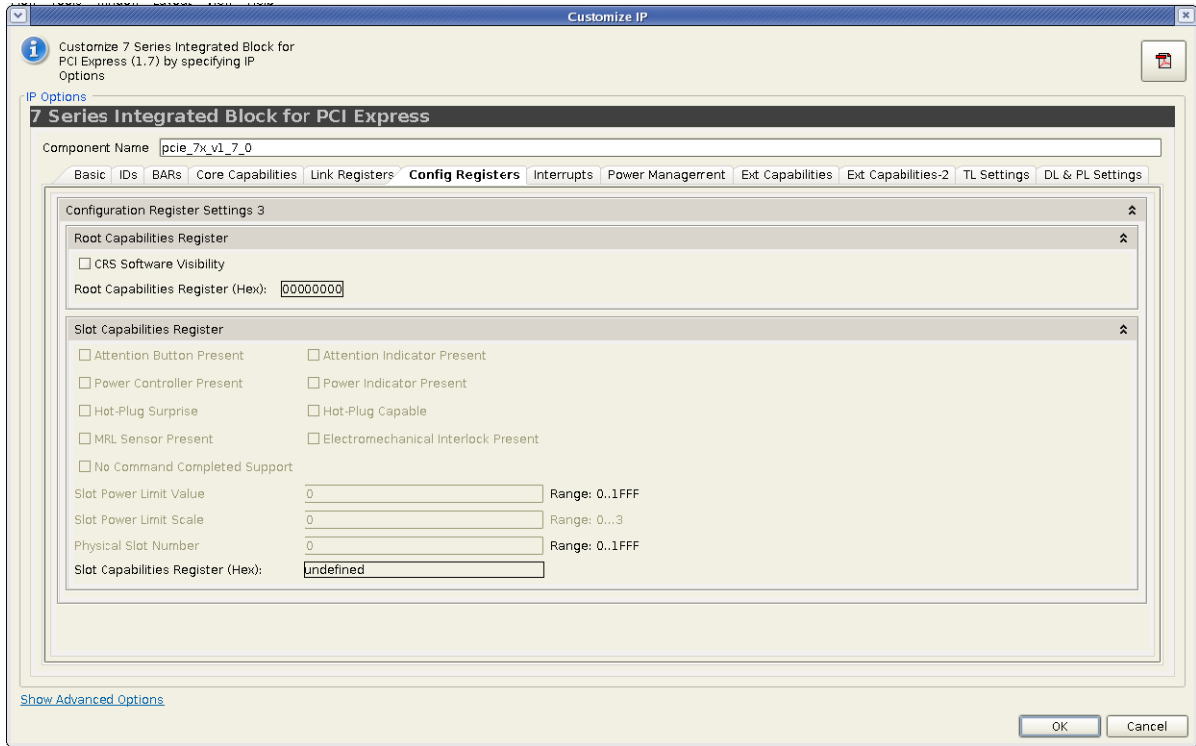

Figure 4-9: Config Register
- **Attention Button Present:** Indicates the Attention Button is implemented. When set, indicates that an Attention Button for this slot is implemented on the chassis. This option is disabled when "Device\_Port\_Type" is not "Root Port of PCI Express Root Complex." This is enabled only when the Slot Implemented parameter in the Core Capabilities tab is selected (see Figure 4-9).
- **Attention Indicator Present:** Indicates the Attention Indicator is implemented. When set, indicates that an Attention Indicator for this slot is implemented on the chassis. This option is disabled when "Device\_Port\_Type" is not "Root Port of PCI Express Root Complex." This is enabled only when the Slot Implemented parameter in the Core Capabilities tab is selected (see Figure 4-9).
- **Power Controller Present:** Indicates the Power Controller is implemented. When set, indicates that a software programmable Power Controller is implemented for this slot. This option is disabled when "Device\_Port\_Type" is not "Root Port of PCI Express Root Complex." This is enabled only when the Slot Implemented parameter in the Core Capabilities tab is selected (see Figure 4-9).
- **Power Indicator Present:** Indicates the Power Indicator is implemented. When set, indicates that a Power Indicator is implemented on the chassis for this slot. This option is disabled when "Device\_Port\_Type" is not "Root Port of PCI Express Root Complex." This is enabled only when the Slot Implemented parameter in the Core Capabilities tab is selected (see Figure 4-9).
- **Hot-Plug Surprise:** When set, indicates that an adapter in this slot might be removed from the system without any prior notification. This option is disabled when "Device\_Port\_Type" is not "Root Port of PCI Express Root Complex." This is enabled only when the Slot Implemented parameter in the Core Capabilities tab is selected (see Figure 4-9).
- **Hot-Plug Capable:** When set, indicates that this slot is capable of supporting hot-plug operations. This option is disabled when "Device\_Port\_Type" is not "Root Port of PCI Express Root Complex." This is enabled only when the Slot Implemented parameter in the Core Capabilities tab is selected (see Figure 4-9). The checkbox in the Vivado IDE advertises the capability and it does not do anything. You need to use the presence signal on your card, route it to an input into the FPGA, and use that input as presence detects and writes through the management interface to set the bit.
- **MRL Sensor Present:** Indicates MRL Sensor implemented. When Set, indicates that an MRL (Manually operated Retention Latch) sensor is implemented for this slot, on the chassis. This option is disabled when "Device\_Port\_Type" is not "Root Port of PCI Express Root Complex." This is enabled only when the Slot Implemented parameter in the Core Capabilities tab is selected (see Figure 4-9).
- **Electromechanical Interlock Present:** When set, indicates that an Electromechanical Interlock is implemented on the chassis for this slot. This option is disabled when "Device\_Port\_Type" is not "Root Port of PCI Express Root Complex." This is enabled only when the Slot Implemented parameter in the Core Capabilities tab is selected (see Figure 4-9).
- **No Command Completed Support:** When set, indicates that the slot does not generate software notification when an issue command is completed by the Hot-Plug Controller. This option is disabled when "Device\_Port\_Type" is not "Root Port of PCI Express Root Complex." This is enabled only when the Slot Implemented parameter in the Core Capabilities tab is selected (see Figure 4-9).
- **Slot Power Limit Value:** Specifies the Upper Limit on power supplied to the slot, in combination with Slot Power Limit Scale value. This option is disabled when "Device\_Port\_Type" is not "Root Port of PCI Express Root Complex." This is enabled only when the Slot Implemented parameter in the Core Capabilities tab is selected (see Figure 4-9).
- **Slot Power Limit Scale:** Specifies the scale used for the Slot Power Limit value. This option is disabled when "Device\_Port\_Type" is not "Root Port of PCI Express Root Complex." This is enabled only when the Slot Implemented parameter in the Core Capabilities tab is selected (see Figure 4-9).
- **Physical Slot Number:** Specifies the Physical Slot Number attached to this port. This field must be hardware initialized to a value that assigns a slot number that is unique within the chassis, regardless of form factor associated with the slot. This option is disabled when "Device\_Port\_Type" is not "Root Port of PCI Express Root Complex." This is enabled only when the Slot Implemented parameter in the Core Capabilities tab is selected (see Figure 4-9).